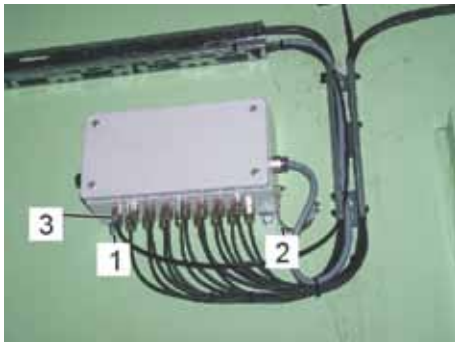

Fig. 54: Connection box
1. Attach the Terminal boxes to the engine block either by four bolts (Fig. 54/1) or by electrical welding.
The cable glands have to be on the bottom side of the box (Fig. 54/3) because otherwise the text inside of the box will be upside down.
The Terminal box in Fig. 54 is different from this one in the scope of today's supply.
3. Screw the GND strap (Fig. 54/2) with a 6 mm hexagonal bolt onto the engine block.